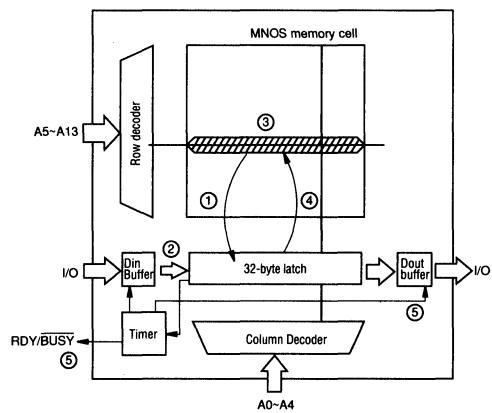

Figure 1-2 HN58C65 Page Write
**Page Write Function:** The 64-kbit HN58C65 can latch 32 bytes (max.) and write them in one write cycle. The write cycle time is specified as 10 ms (max.) The effective byte write speed of HN58C65 in page write mode is  $10\text{ ms}/32\text{ bytes} = 0.31\text{ ms}/\text{byte}$ . Thus it takes only 2.56 seconds to write the entire HN58C65. Figure 1.2 shows the internal operation.